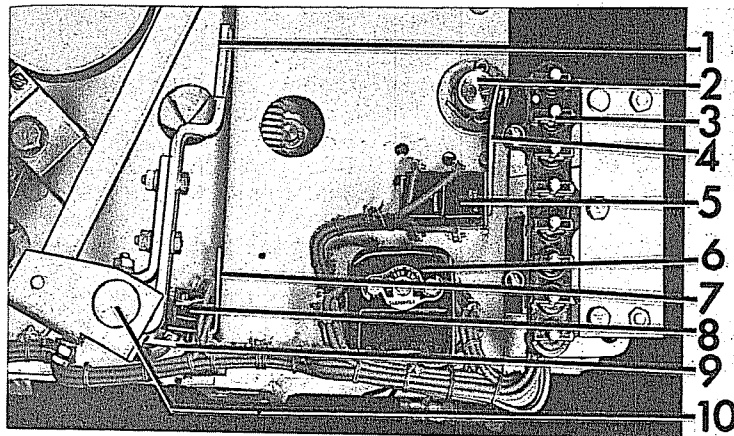

Fig. 13 (8037375) Interlock Switches
Refer to Figure 13. With the positive interlock in the reset, or normal position the clearance between the interlock switch arm (4) and the switch mounting plate should be 1/32" or less. This can be adjusted by bending the switch arm.